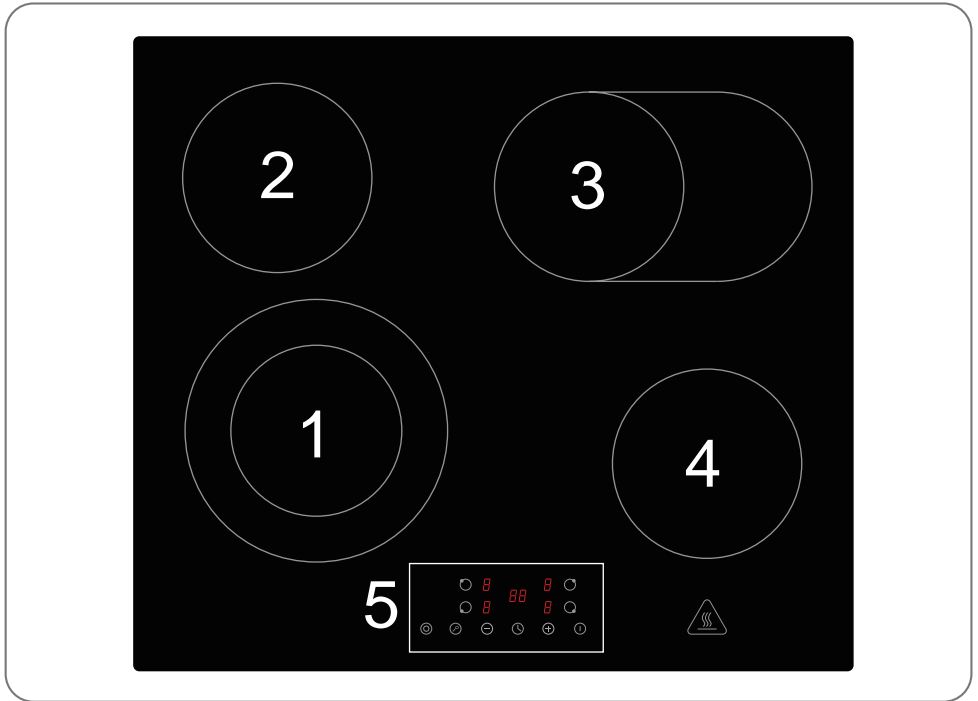
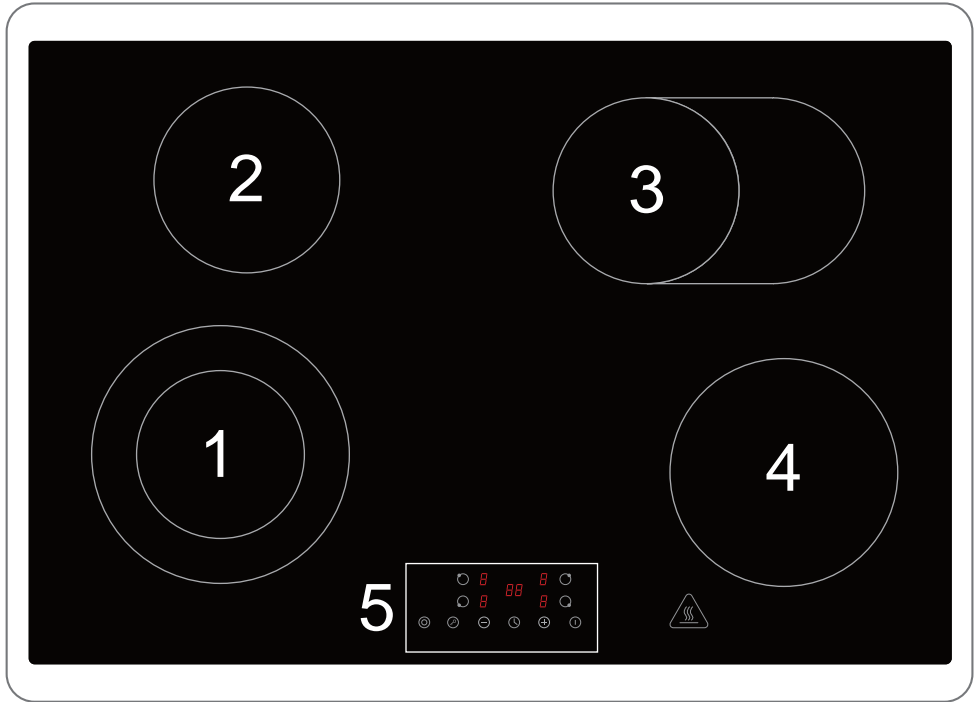

Fig. 4.6
Fig. 4.7
**NOTE:** The zones available for the dual cooking area are 1 and 3 (see Fig. 4.6 and Fig. 4.7).